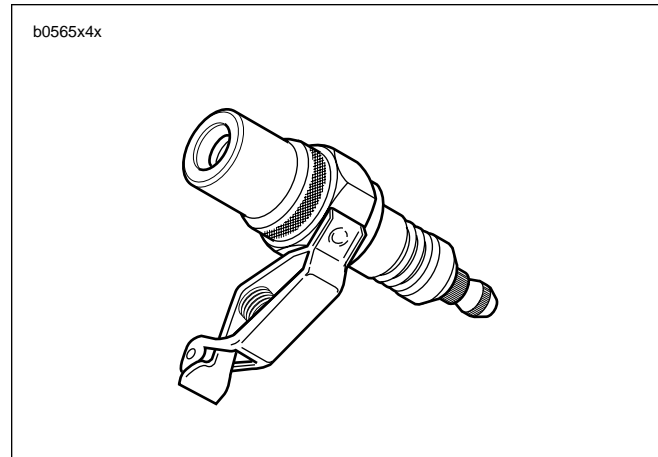

Figure 4-28. Spark Tester (Part No, HD-26792)
1. See Figure 4-28. A SPARK TESTER (Part No. HD-26792) must be used to verify adequate secondary voltage (25,000 volts) at the spark plug.